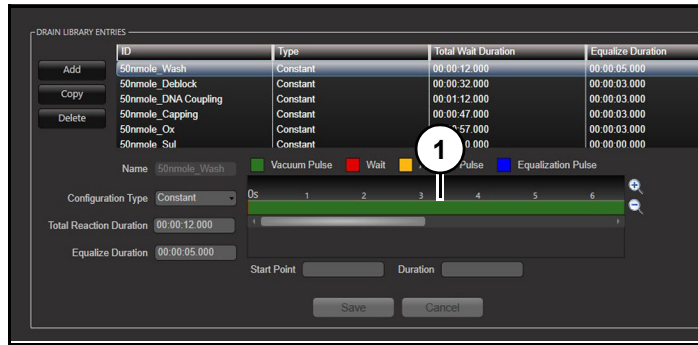

Figure 22
A constant vacuum pulse (1) (Figure 22) is a pulse that applies same length of vacuum to column chuck.